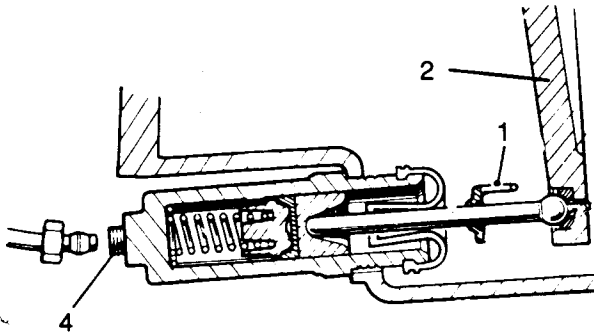

Fig H3.7
- (4) Refer to Fig H3.7. Release the plastic clip (1) from the clutch release lever (2) and slide the clip along the push rod (3).
- (5) Remove the two retaining bolts and pull the slave cylinder away.